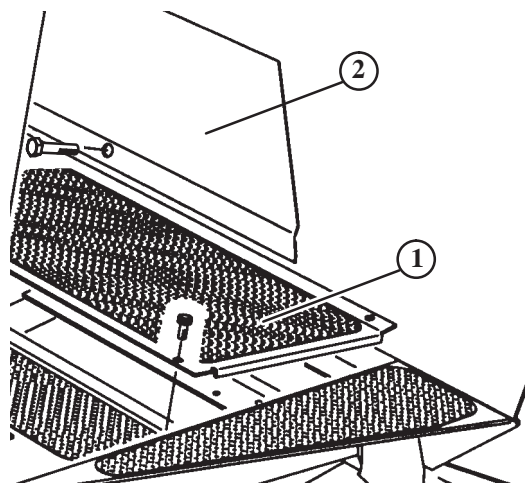

Figure 4
- Remove fasteners securing left front corner of floor panel and left end of access panel to frame (Fig. 4).
- Replace floor panel fastener with flange head capscrew (5/16 x 5/8 in.) supplied in loose parts (Fig. 4).
- Replace access panel fastener with flange head capscrew (5/16 x 3/4 in.) supplied in loose parts (Fig. 4).